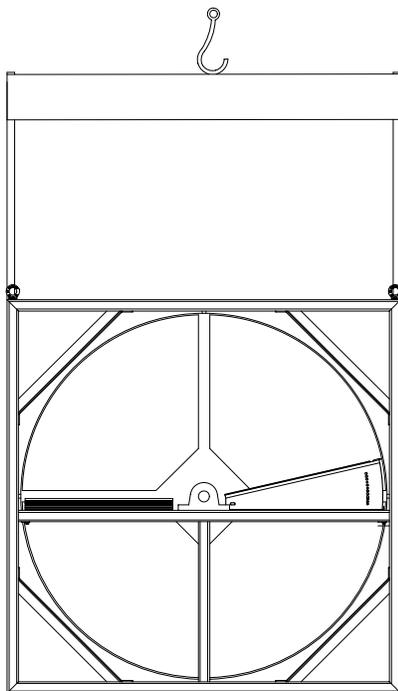

Figure 4.1
- Before lifting, always ensure the chains or slings are vertical (see figure 4.1 and 4.2).
- * If assembling the eye bolts is necessary, follow the eye bolts assembly details (figure 4.3). Make sure to align the eye bolts parallel to the diameter dimension (per figure 4.1).